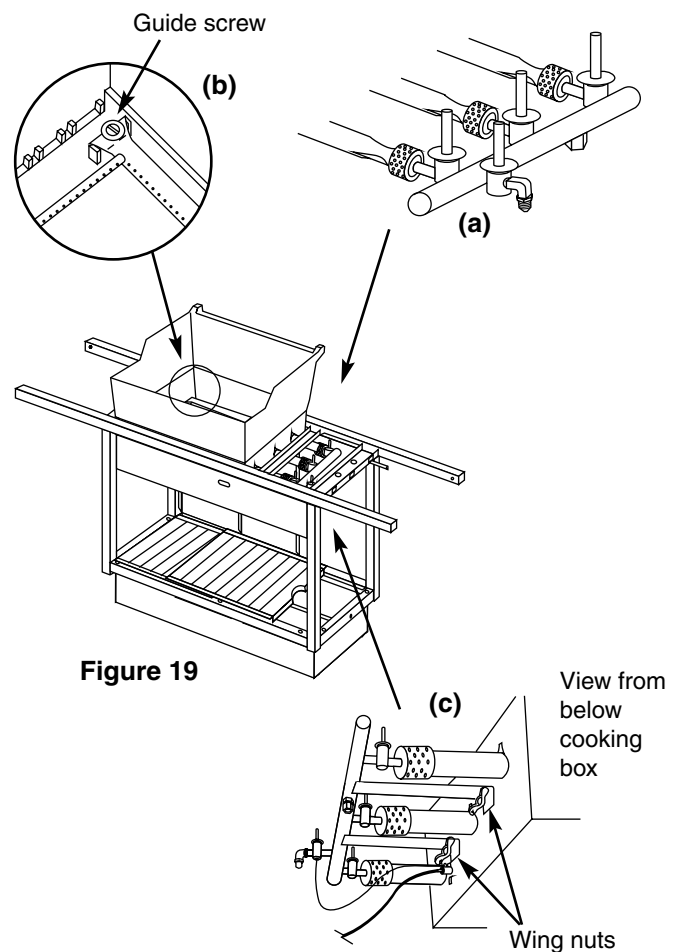

Figure 19
- Do the valves fit into the ends of the burners? Figure 19 (a).
- Are the ends of the burners under the washers at the left rear and left front of the cooking box? The screws are only guides. Do not tighten. Figure 19 (b).
- Are the wing nuts under the burner assembly hand tight? Do not tighten with pliers. Figure 19 (c).